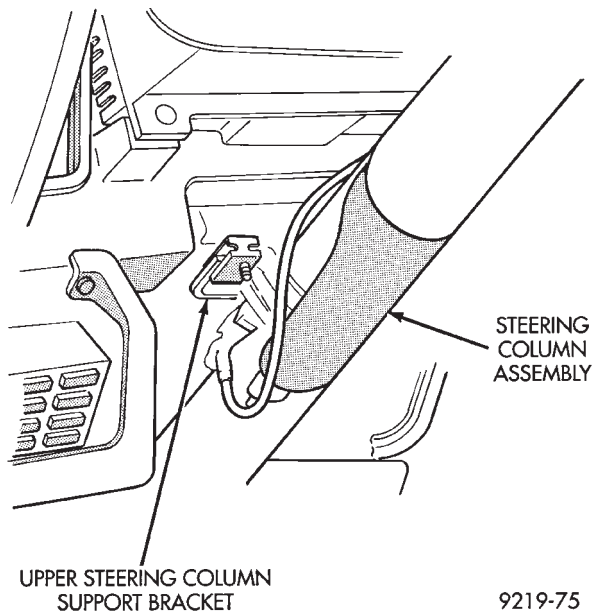

Fig. 10 Steering Column Support Bracket
(17) Loosen the upper steering column support bracket nuts (Fig. 10) to allow some slack. This will aid in removal of the upper fixed shroud.